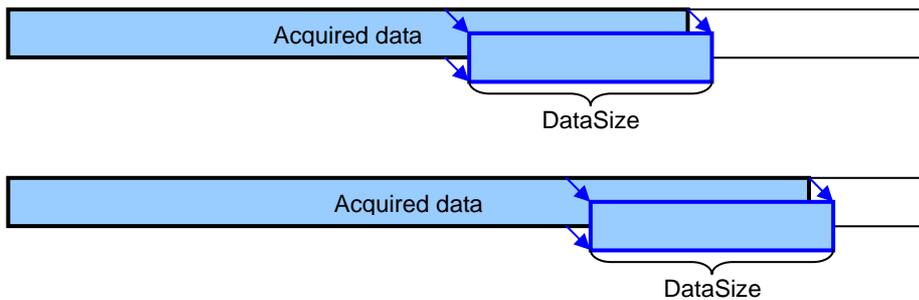

Figure 101 AType set to ctLast
0... ctLast... for reading a certain amount (specified by “BlockSize”) of the last data; Figure 101 illustrates two subsequent calls of GetDataBlocks when AType is set to ctLast.